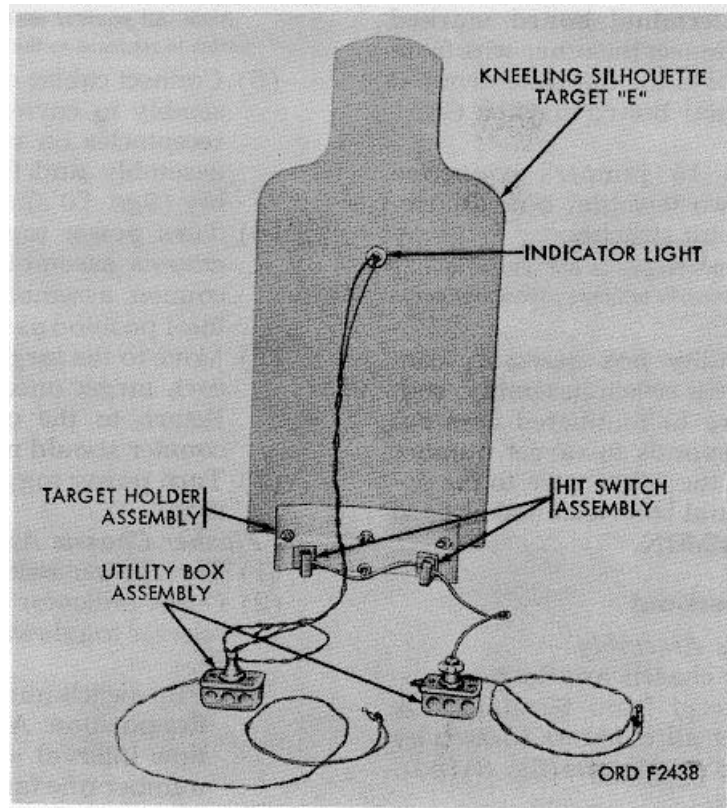

Figure 6. Target installation details - rear view.
Indicator lights are mounted on the counter chassis panel, one light for each counter assembly. Indicator lights are also mounted on the targets, one light on each target (fig. 6). The light on the target flashes to simulate the flash of an enemy gun. The light(s) on the
(3) Replace utility box covers and screws.
b. Install target indicator light as follows (fig. 6).
- (1) Solder ends of two field wires to indicator light terminals.
- (2) Install indicator light in target.
- (3) Connect other ends of two field wires to terminals in receptacle plug connector.
- (4) Plug receptacle plug connector into utility box receptacle.
c. Clip the hit switch assembly to bottom edge of the target holder assembly. Position the assembly so that a switch is on each side of the rear of the target holder assembly (fig. 6). Plug the receptacle plug connector of hit switch assembly into the utility box assembly.